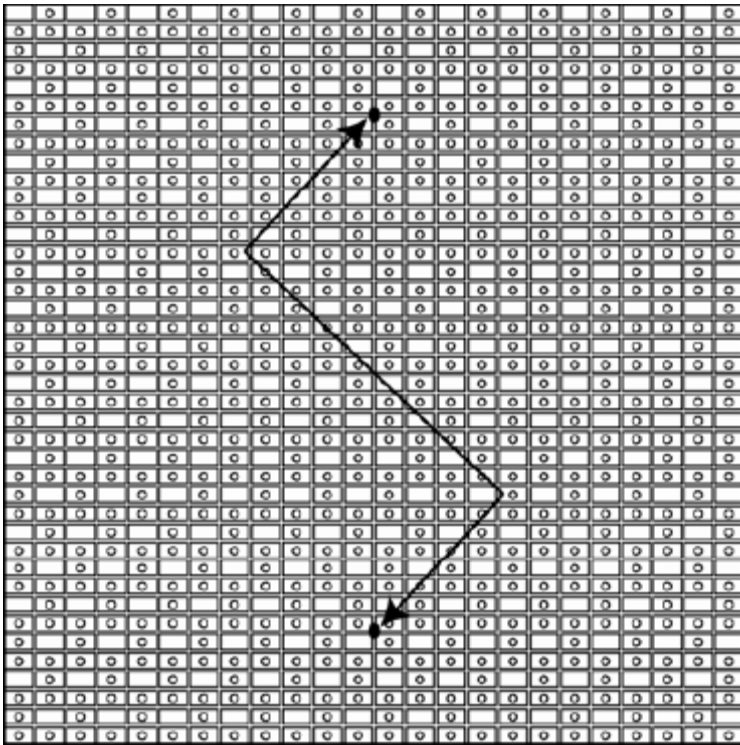

Figure 2: Module Latch Releases
2. With a $\frac{1}{8}$ " hex head driver, turn the top and bottom latch releases approximately $\frac{1}{2}$ turn counter-clockwise. Refer to **Figure 2**.